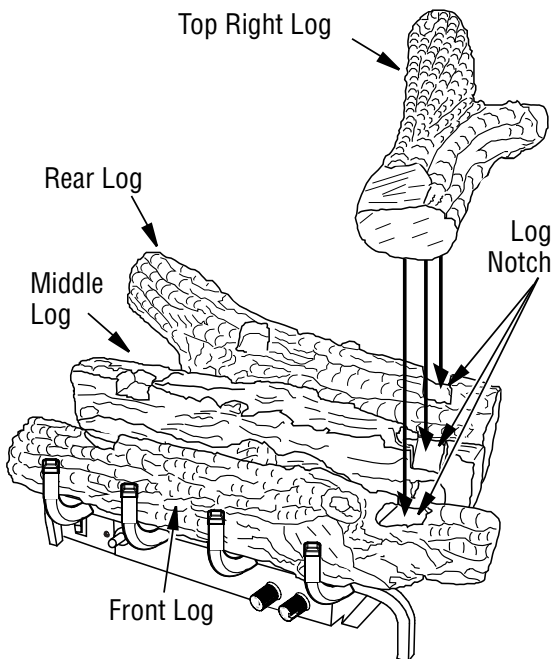

Figure 24 - Installing Top Right Log
4. Place the top right log onto the rear, middle and front logs as shown in **Figure 24**. The rear, middle and front logs has notches for the top right log to set into. You may have to move the front log from left to right to get it to line up with the top right log.